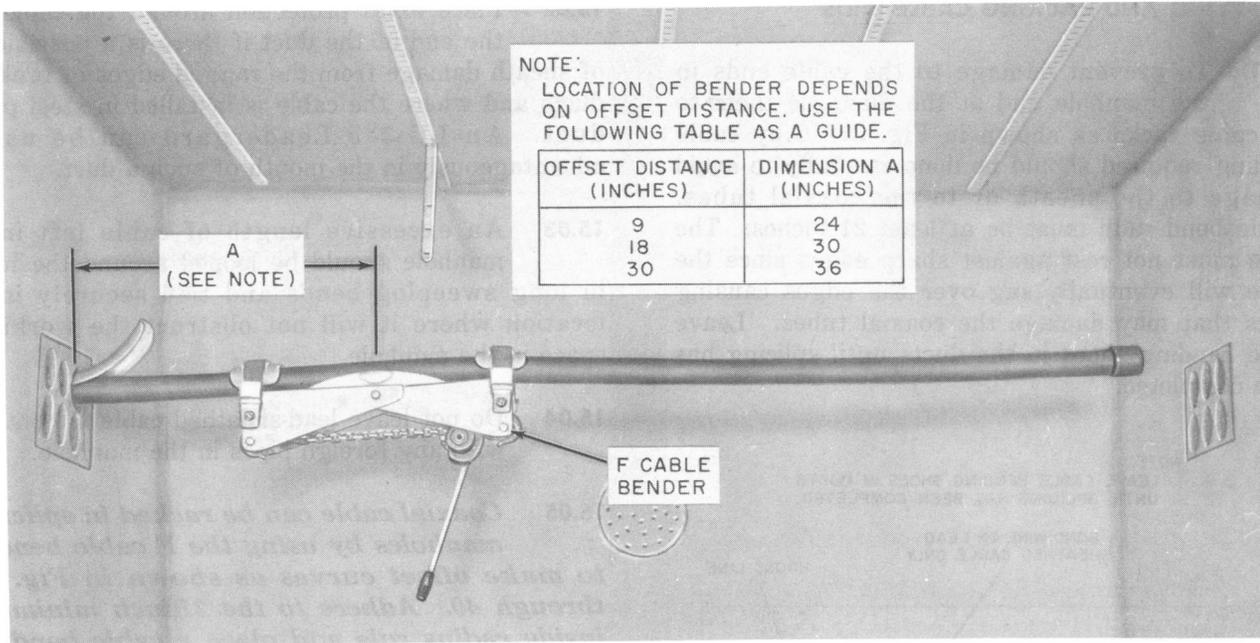

Fig. 38—Initial Position for Splicing Manhole Racking
15.05 *Coaxial cable can be racked in splicing manholes by using the F cable bender to make offset curves as shown in Fig. 38 through 40. Adhere to the 21-inch minimum inside radius rule and place a cable bending shoe at the edge of the duct when forming these bends.*